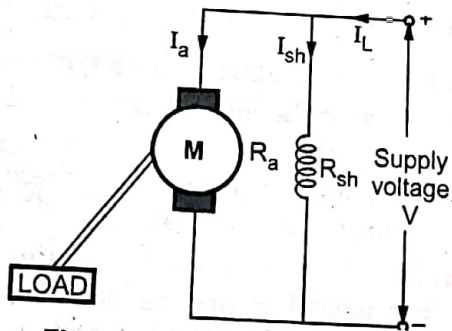

Fig. Q.45.1 D.C. shunt motor
1. D.C. shunt motor : The field winding is connected across the armature winding and the combination is connected across the supply, as shown in the Fig. Q.45.1.